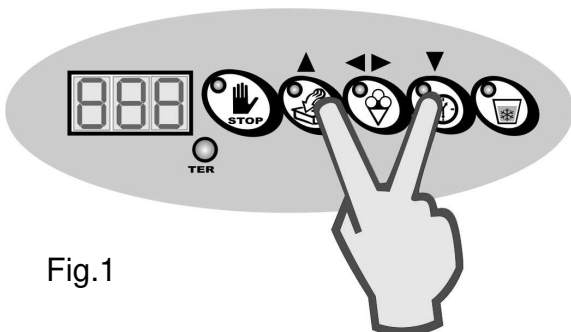
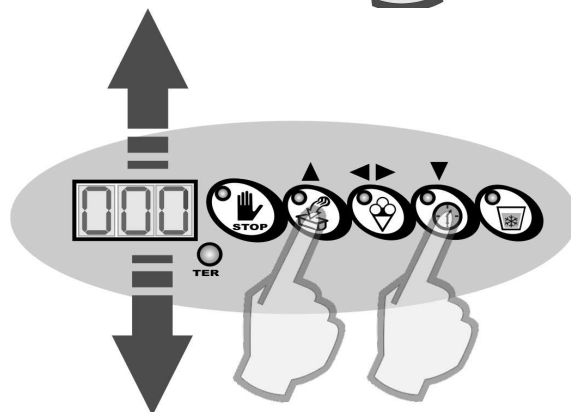

Fig.1
Fig.2
4. Press the "UP" and "DOWN" keys simultaneously until the password selection screen appears (fig. 1). Enter the password by increasing or decreasing the values via the UP and DOWN keys (FIG. 2), then press CONFIRM to validate the typed in password. If you do not know the password, contact the Frigomat assistance service.
6. If you do not wish to change the value of the selected step, press "UP" to directly access the following step. (fig. 2)